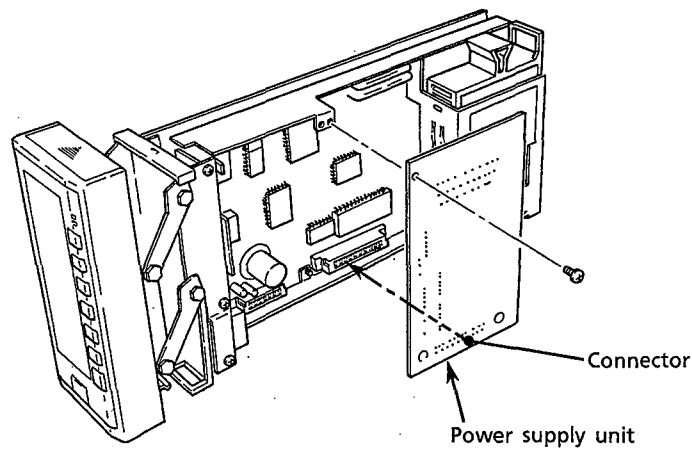

Figure 11.9 Replacing the Power Supply Unit
- ① Swing up the front panel, and then remove the internal unit.
- ② Remove the screw with a screwdriver.
- ③ Hold the left and right parts of the connector part, and pull out the card to the front (see Figure 11.9).